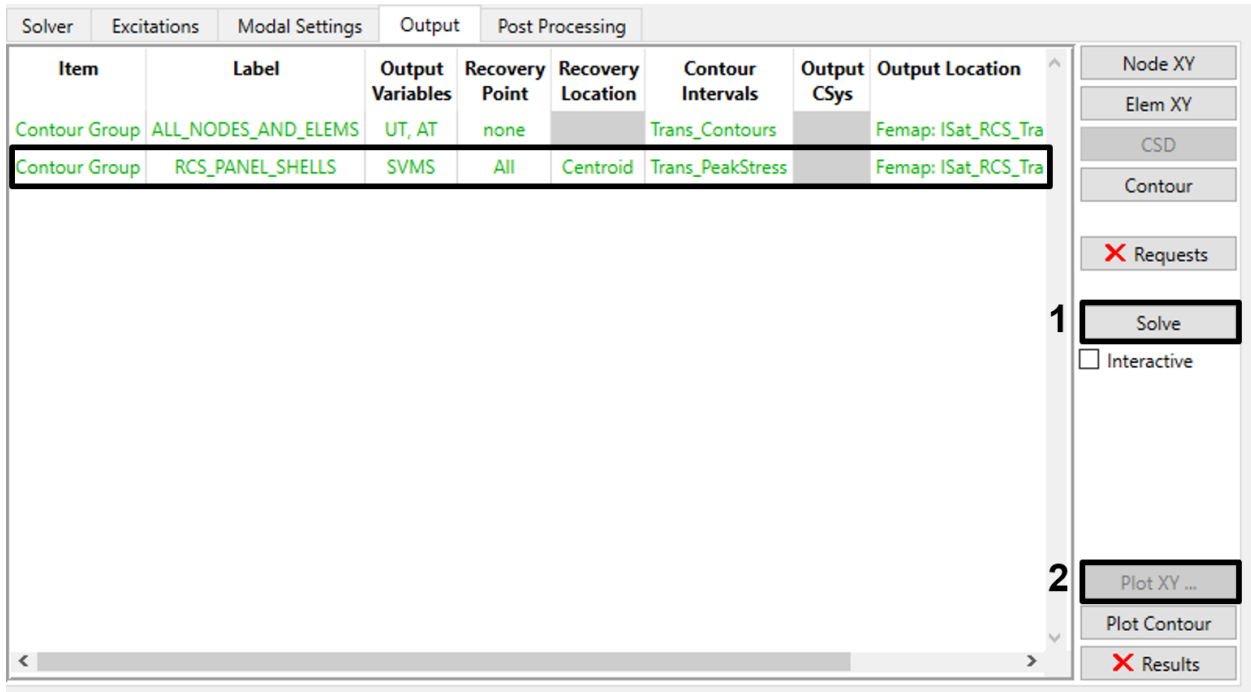
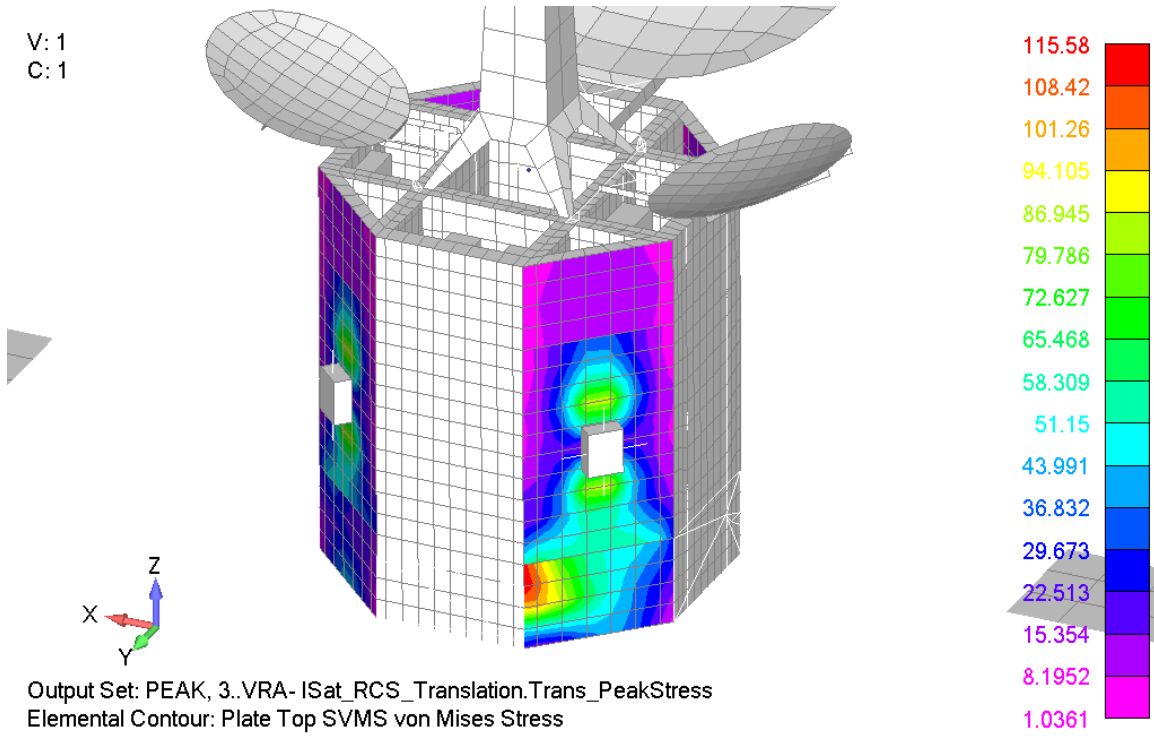
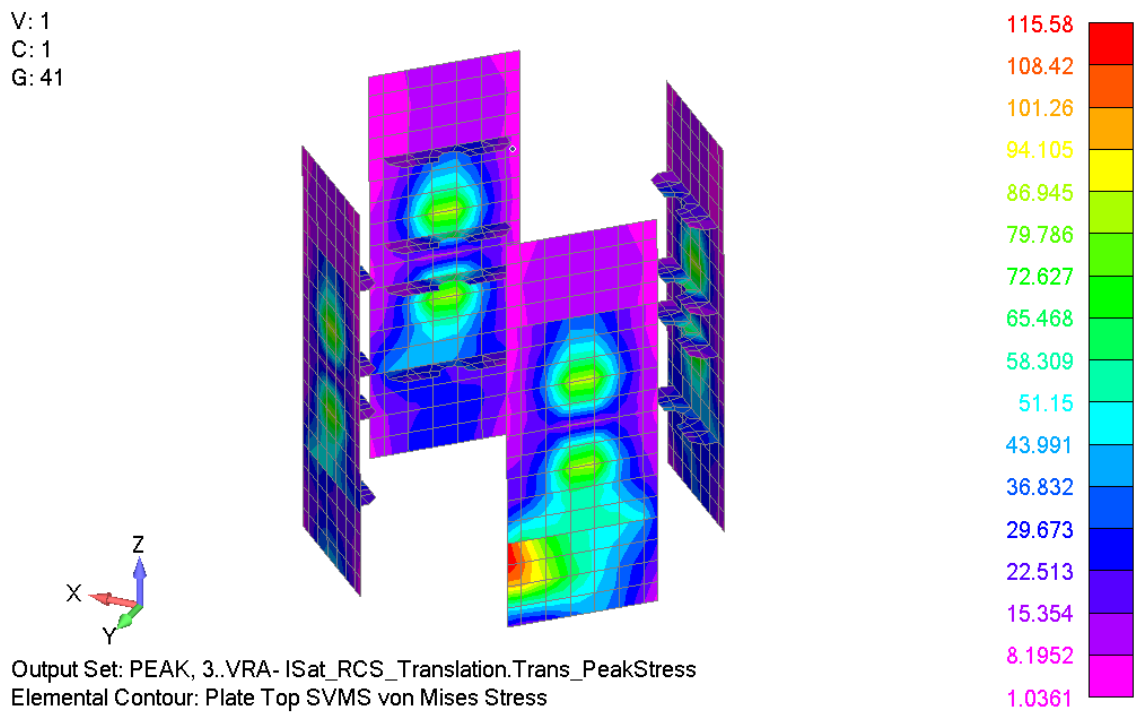

Figure 4-102. Select the RCS Panels contour request and plot its results.
Figure 4-103. Peak von Mises stress contours in RCS panels.
Figure 4-104. Von Mises results with only the RCS panels group displayed.
10. Solve the new contour request. When the solver finishes, select the new contour request in the table, then click **Plot Contour** (Figure 4-102). Vibrata will set Femap to display the results from the selected request (Figure 4-103). Since we only requested stresses for the RCS_PANEL_SHELLS group, you may want to display only that group (Figure 4-104).